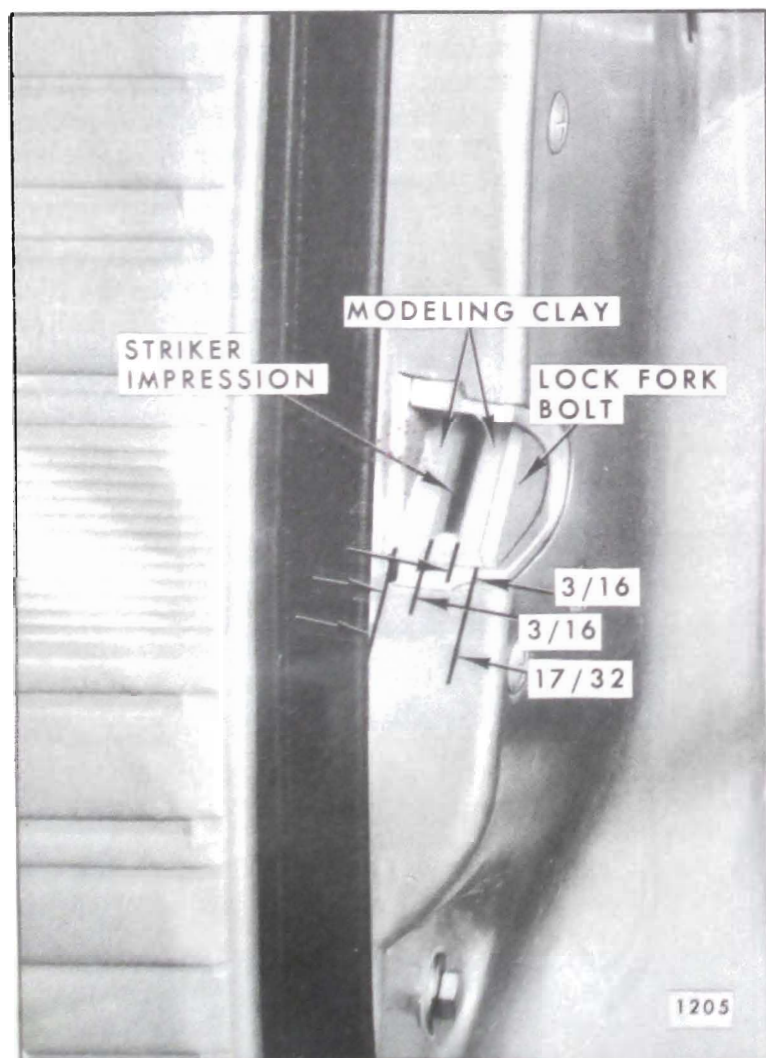

Fig. 7-33—Lock to Striker Engagement
- b. Apply modeling clay or body caulking compound to lock bolt opening as shown in Figure 7-33.
or caulking compound as shown in Figure 7-33.